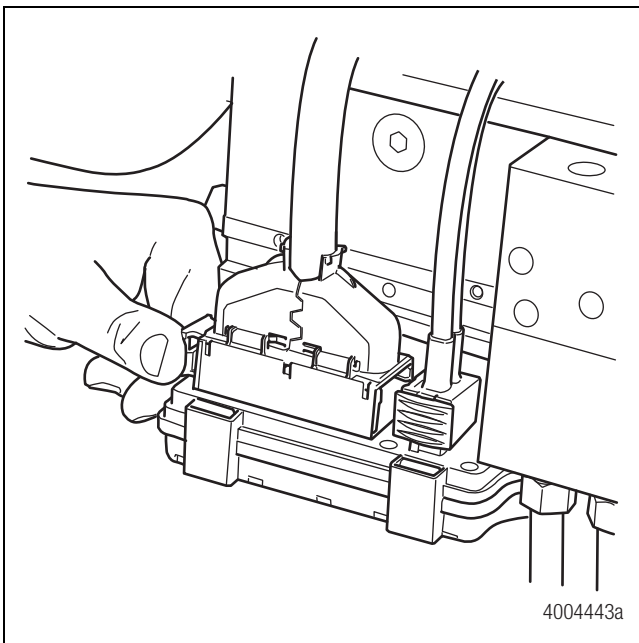

Figure 12
5. First attach the 31-pin harness connector. Then, attach the 2-pin power harness connector to the ECU. Push the latch into position to lock the connection. Figure 12.